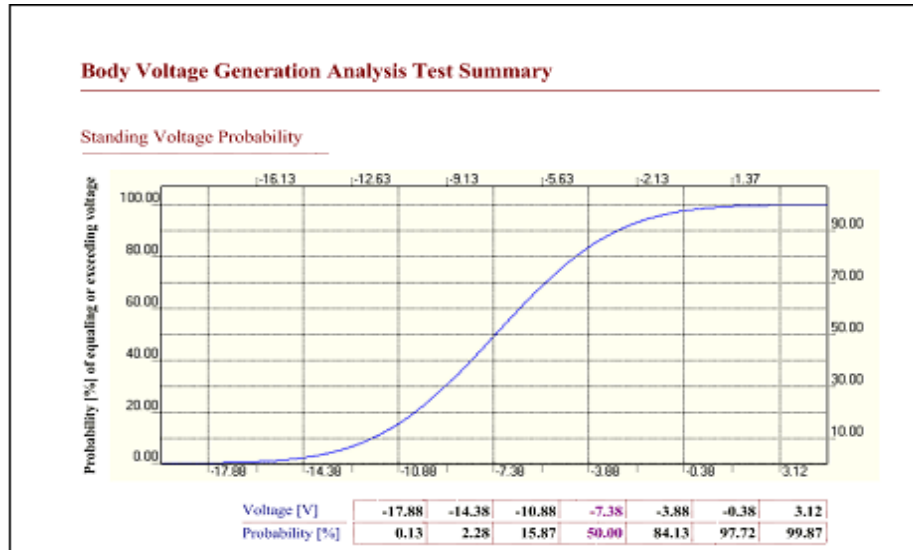

Figure 31: Body Voltage Generation Probability Curve using Recorded Negative (-) data. The slope is from Right (High magnitude) to Left (Lowest magnitude)
- d. Selecting the **Body Voltage Analysis** report will generate graphs where slopes will be calculated using values and *polarities* of the recorded data. (Figure 31)